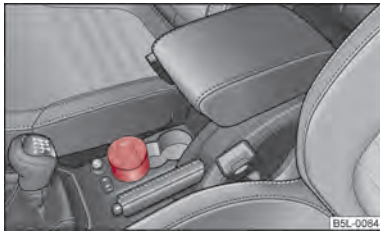

Fig. 71 Centre console: Front ashtray
- Remove the ashtray ⇒ fig. 71 upwards. When removing do not hold the ashtray at the cover - risk of breakage.